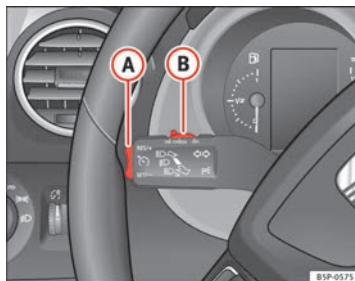

Fig. 152 Turn signal and main beam headlight lever: switch and rocker switch for the cruise control
- Push the switch ⇒ Fig. 152 (B) to the left to **ON**.